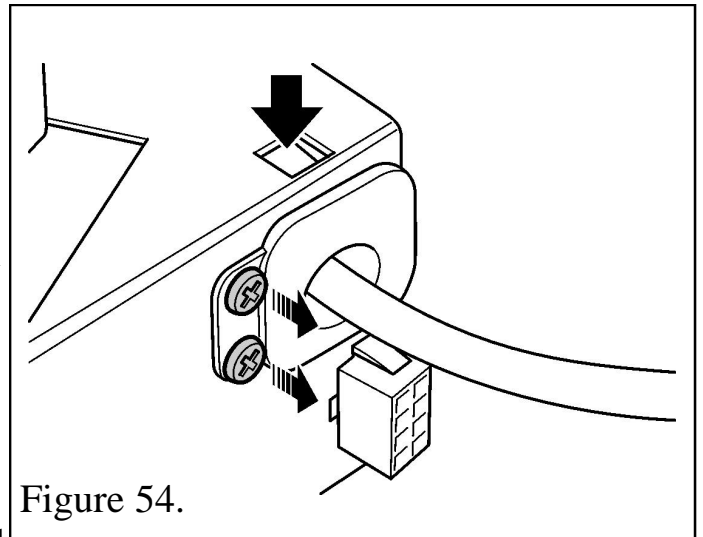

Figure 54.
3. Unscrew the two mains lead connector screws located on the outer housing (See figure 54).
4. The mains lead connector has two tags that hold it in place. There is a slot in the top of the control box housing for access to the top tag (See figure 54). Press the top and bottom tags and slide the mains lead connector clear of the control box housing.